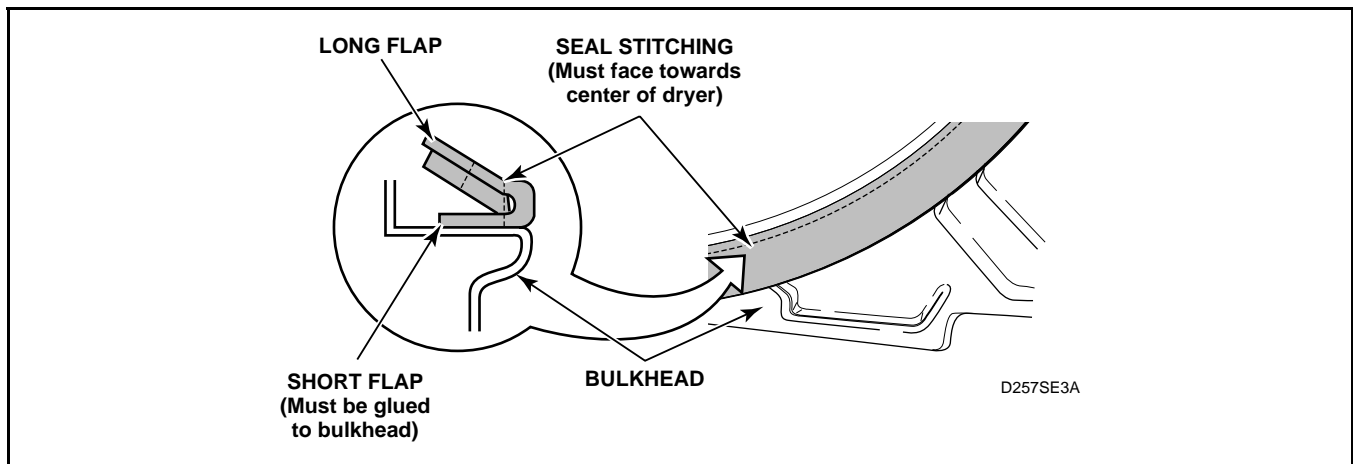

Figure 50
i. **Front Cylinder Seal** (*Figure 50*)
- (1) The stitching on the seal must face towards the dryer center. See *Figure 50*.
- (2) The short flap, shown in *Figure 50*, must be glued to the bulkhead and the long flap left loose.